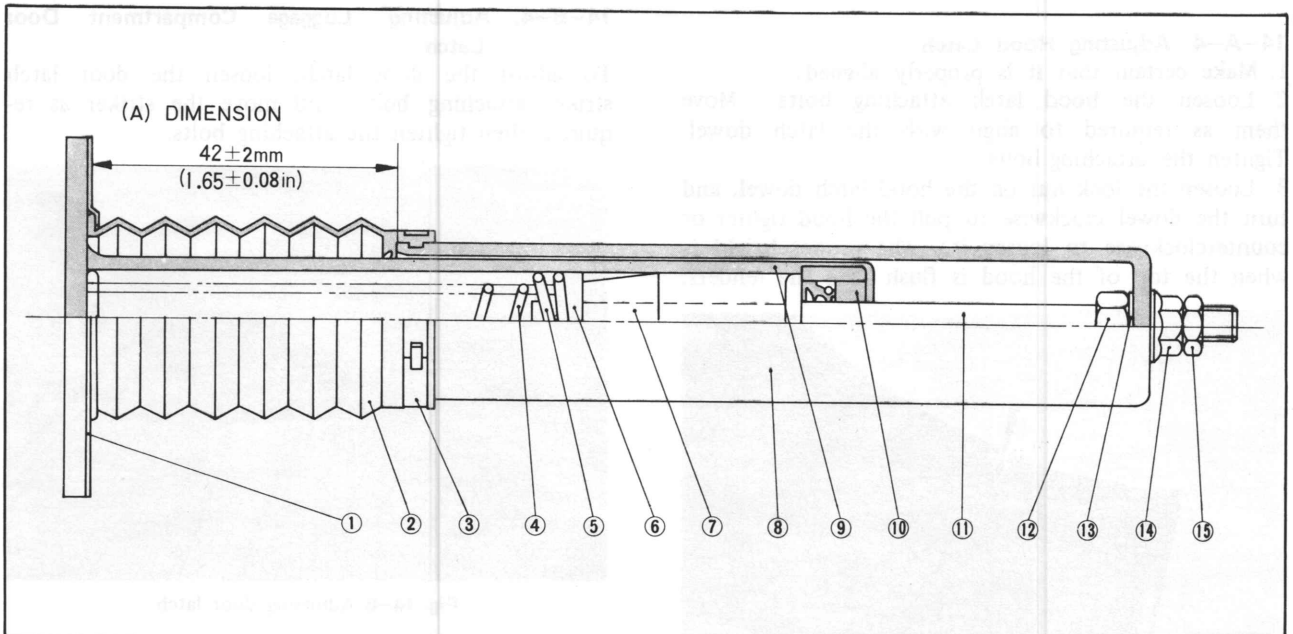

Fig. 14-9 Front shock absorber
To check the shock absorber, measure the dimension (A) shown in Fig. 14-9.